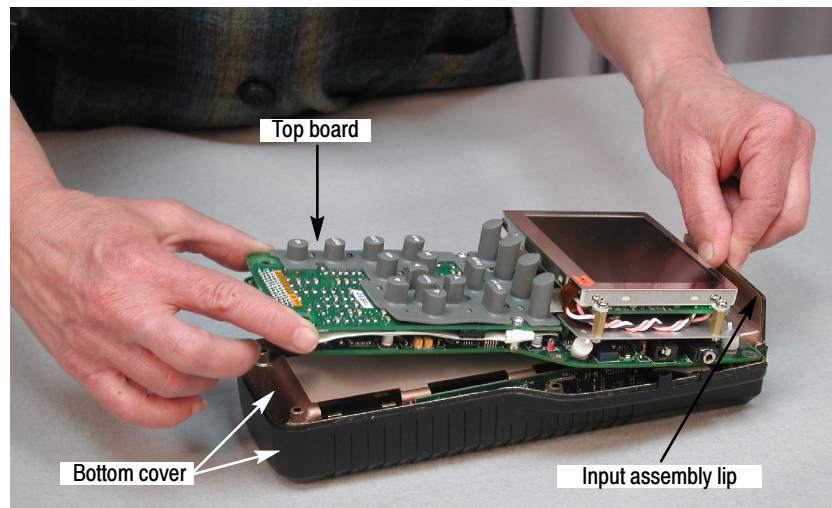

Figure 3: Lift assembly off bottom cover
1. With the thumb and forefinger of one hand, grasp the plastic extended lip of the Input board assembly. With the thumb and forefinger of the other hand, grasp the top board at the opposite end of the board assembly and gently tip that end up and off the bottom cover (see Figure 3).